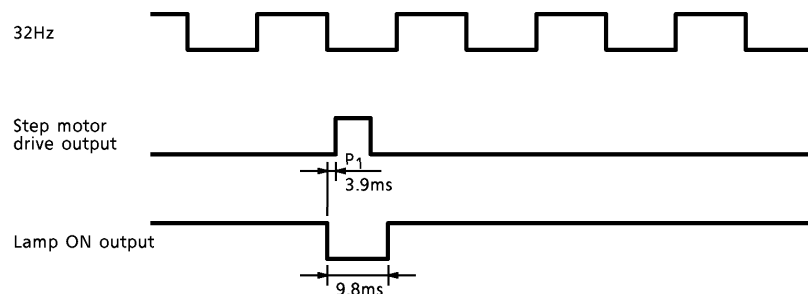

Fig.5 Step motor drive output and lamp ON output timing
- When the step motor drive output and the lamp ON output overlap, about 3.9ms before the step motor drive output, the lamp goes OFF for around 9.8ms and the step motor drive output functions, as shown in Fig.5.